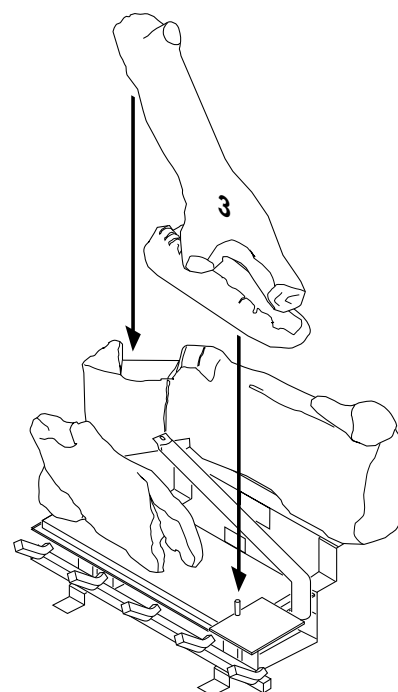

Figure 52 - Installing Log Assembly No. 3
3. Place log #3 (crossover assembly) onto the front right pin on front burner with the crossover log resting in notch on back log (see Figure 52).